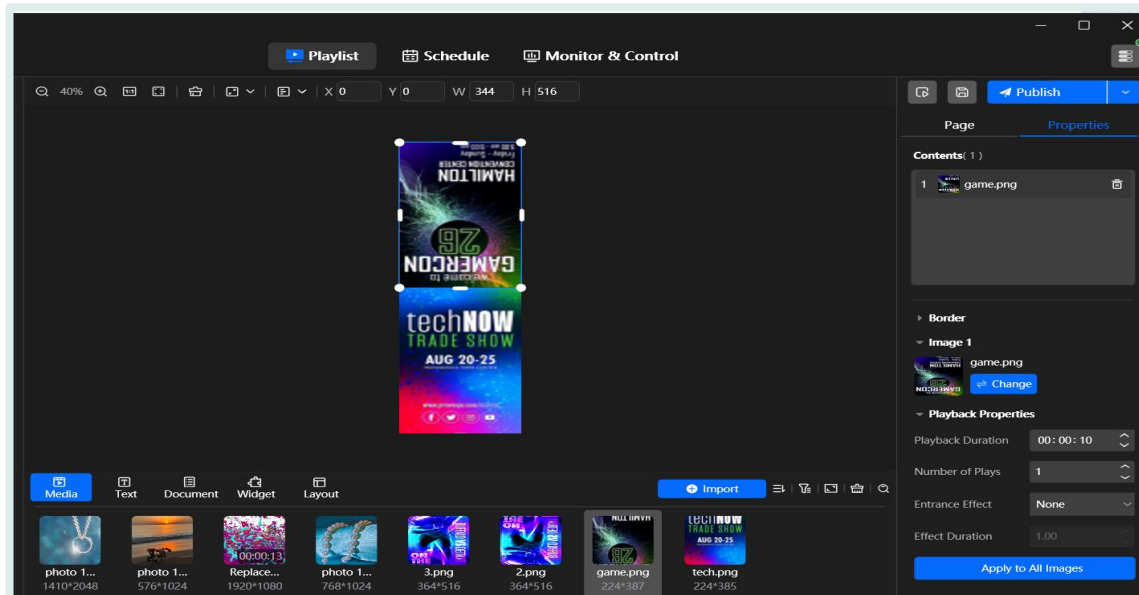

fig 7.2
2. Drag the content into the upper or lower partition. No resolution settings are required to fig 7.2.